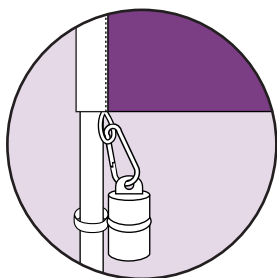

Fig 4.
4. Attach the weight onto the rope loop at the bottom of the flag. (see fig 4)